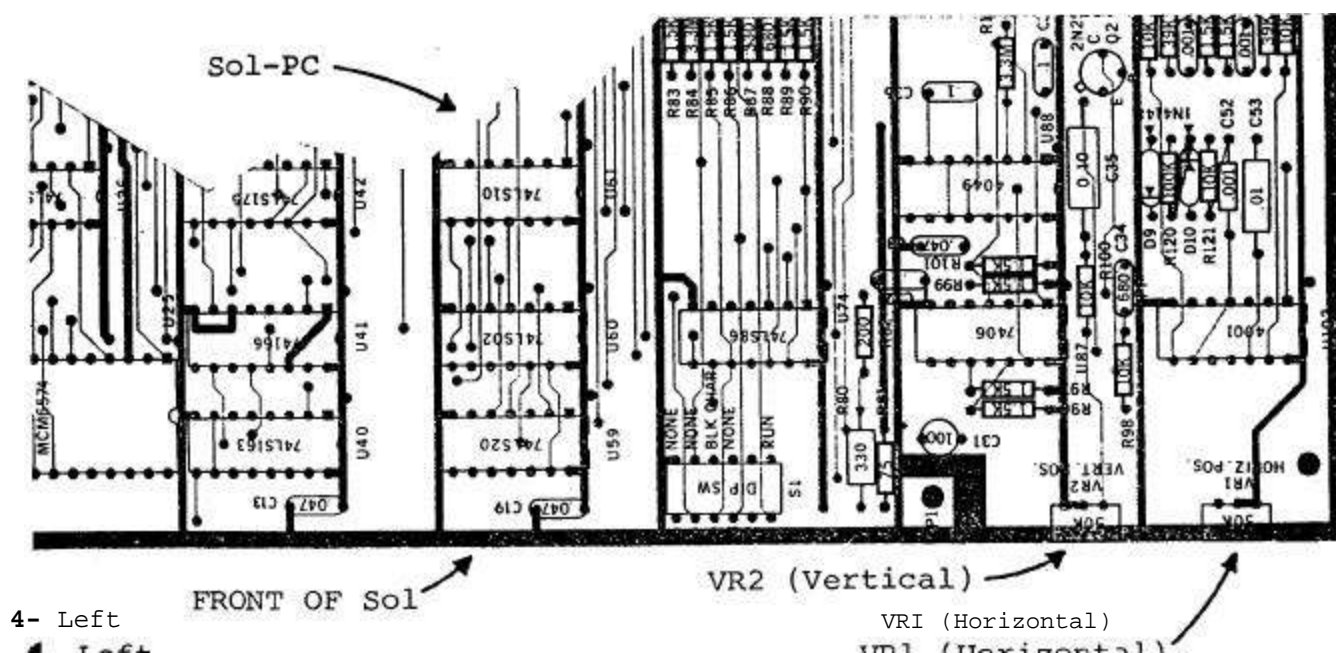

Figure 7-3. Location of positioning adjustments, VRI and VR2.
- () Step 10. You should see a prompt character followed by the cursor (>■) in the upper left corner of the screen. If you don't, adjust VRI and VR2 (see Figure 7-3) to move the prompt character and cursor onto the screen. (With CONSOL, only the cursor will appear on the screen.)